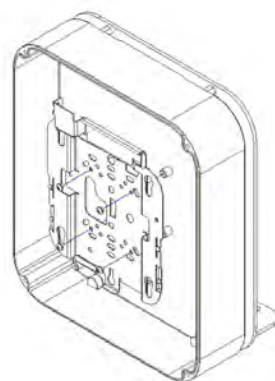

Figure 2
Step 3a – (For Cisco APs Only) Install Cisco's Access Points by fastening the Air Bracket with the included #6 x 1/4" screws (Figure 2).